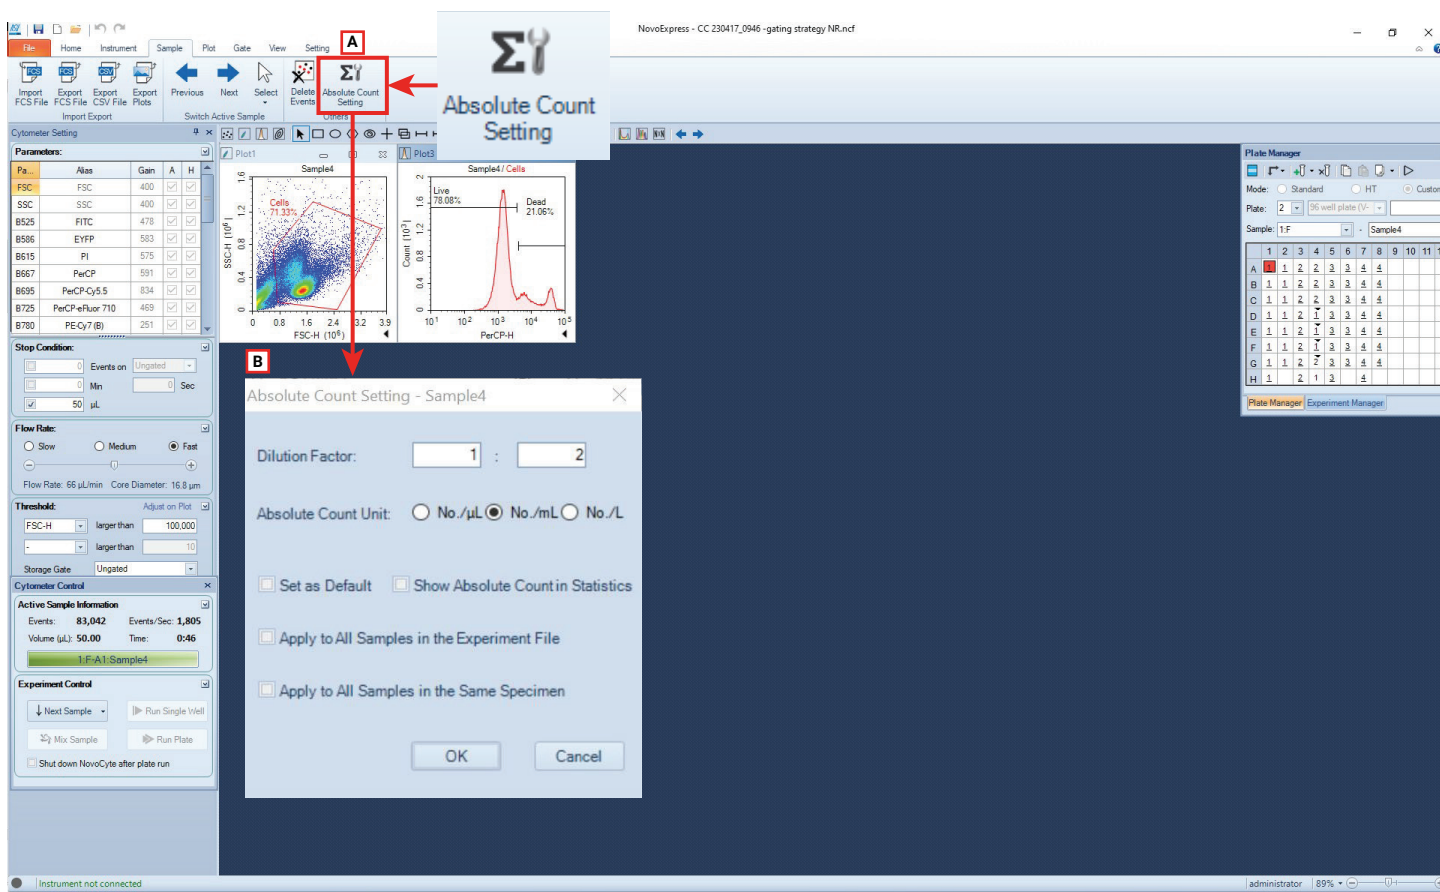

Figure 3. Setting up the absolute cell count feature.
- The absolute count for live, viable cells is represented in units of cells/mL. The units for volume can be changed to  $\mu\text{L}$ , mL, or L by modifying the Absolute Count Settings (Figure 3).